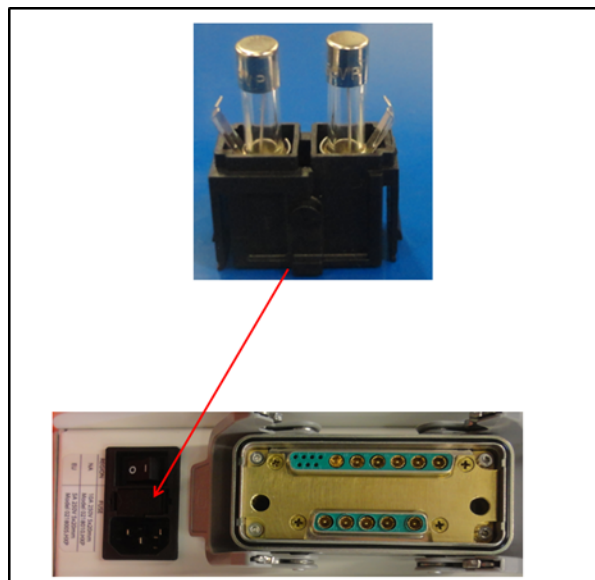

Figure 15: Fuse drawer placement
1. Turn off the power to the System Electronics (SE).
5. Insert the fuse drawer back into the power entry module with the notch on the right side (*Figure 15*).